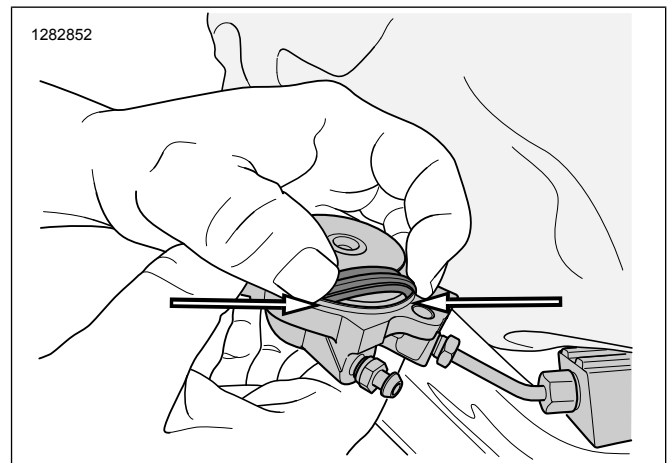

Figure 4. Pinching Actuator Transmission Seal Boot
- a. See Figure 4. Pinch the actuator transmission seal boot (4).